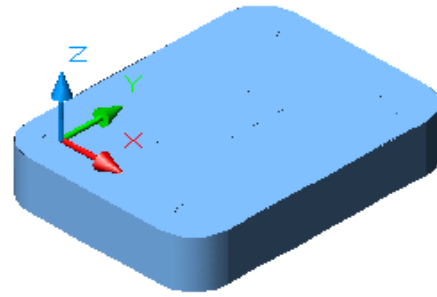

Figure Step 11
Step 11 Shade the model and it should appear as shown in Figure Step 11.